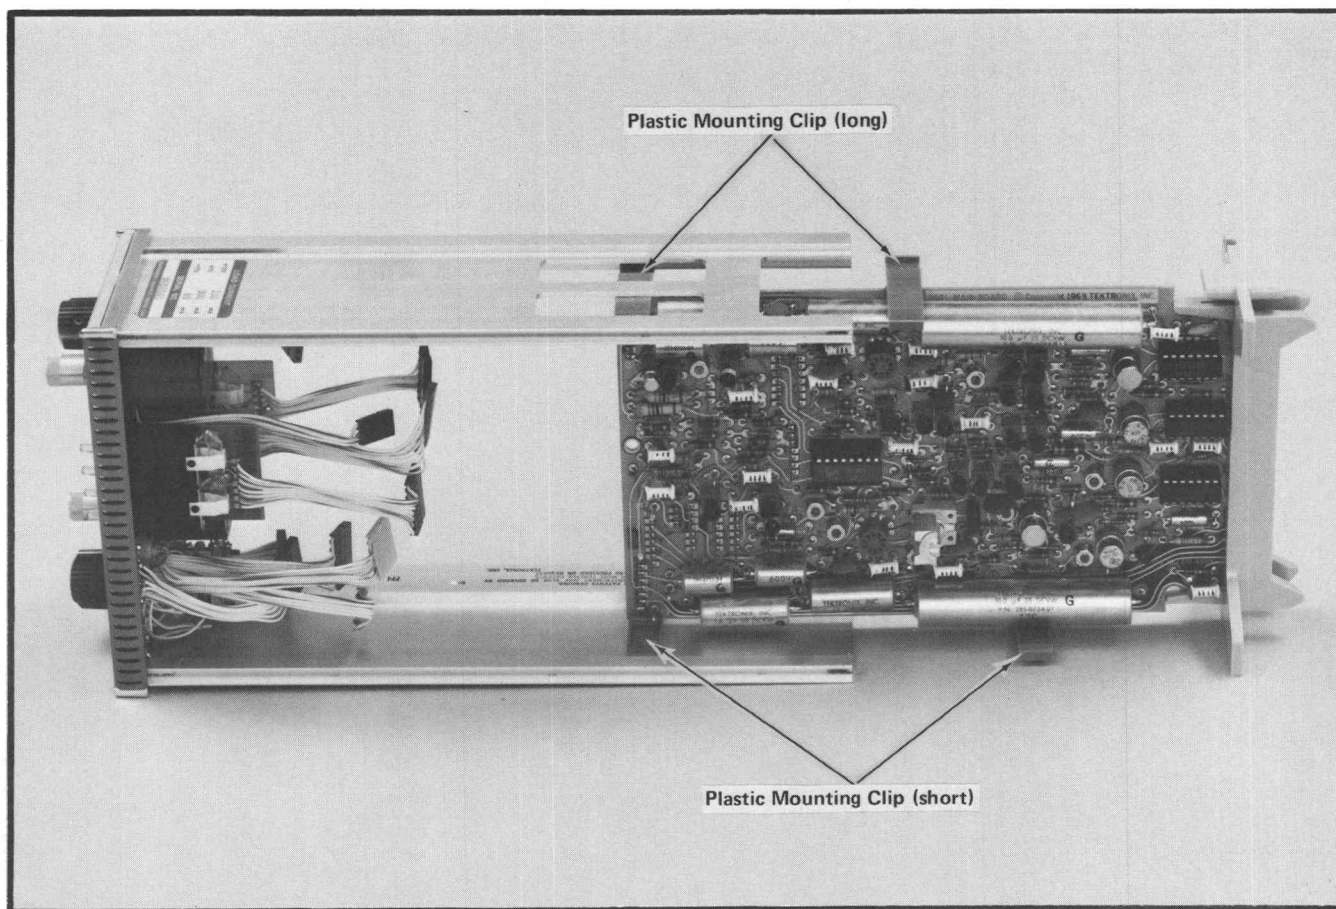

Fig. 4-1. Circuit Board Replacement.
1. Place two plastic clips as shown in Fig. 4-1.